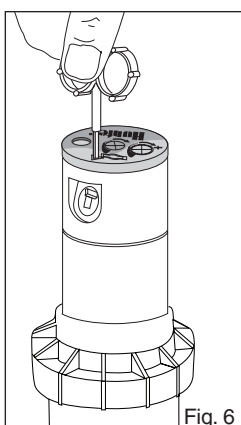

Fig. 6
Insert the steel hex end of the Hunter wrench into the radius adjustment screw (Fig. 6). Turn the screw clockwise (into the stream of water) to decrease the radius, or counterclockwise to increase the radius. Radius can be reduced up to 25%.
- Using the hex key of the Hunter wrench, turn the radius adjustment screw (Fig. 6) counterclockwise to be sure it is not blocking the nozzle socket opening. If a nozzle is already installed, it can